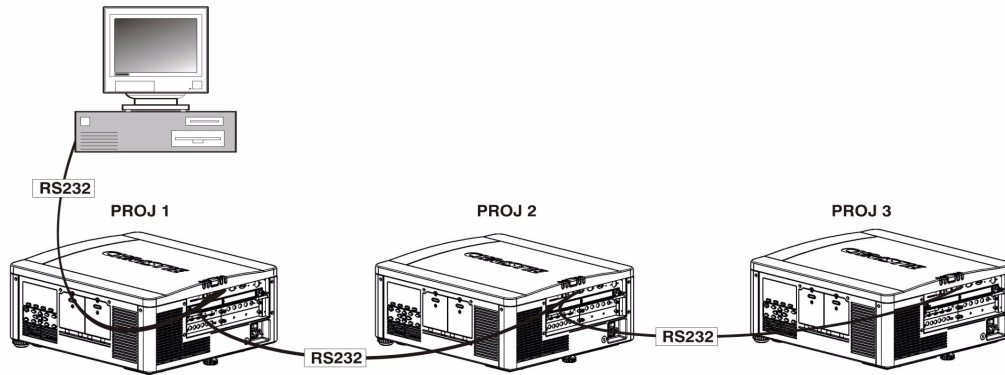

FIGURE 2-20 - RS232 NETWORK
3. Continue this pattern of connection with all projectors in the network. *NOTE: The last projector in the network will only have a connection to the RS232 IN connector; see Figure 2-20 - RS232 Network.*